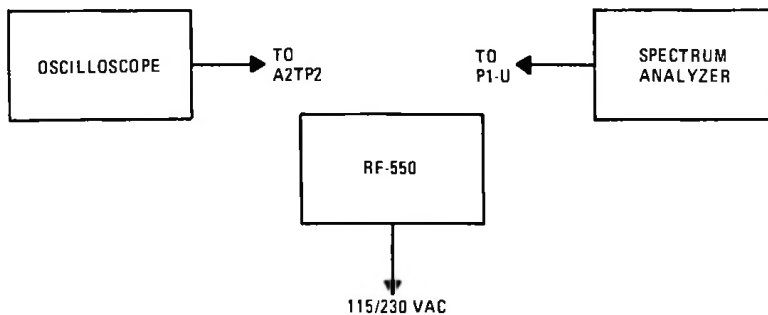

Figure 5. Test Setup
- b. Set up as per figure 5. All test points and adjustments are accessible from the top of the RF-550 with assembly A2A8 cover removed. The assembly can also be operated on an extender cable if necessary.